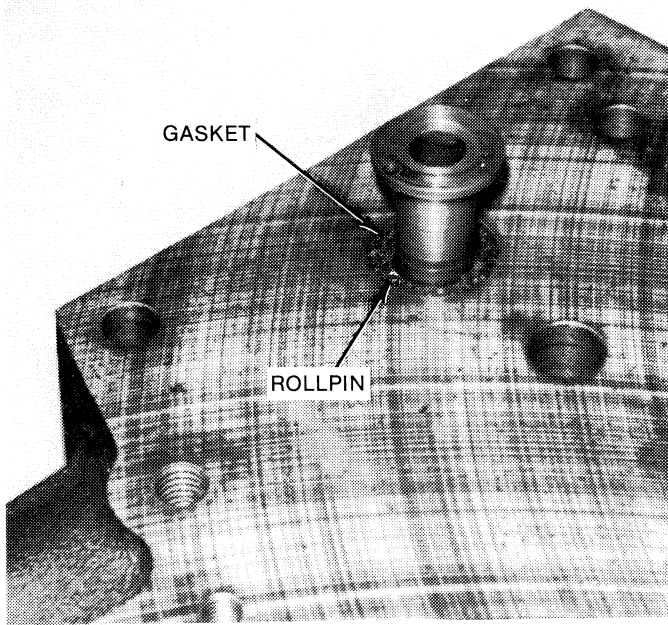

Figure 6-14. Lube Tube Partially Removed.
7. Remove the lube tube and gasket. Do not remove the rollpin unless parts are being replaced. See Figure 6-14.